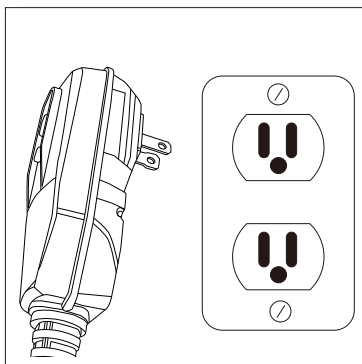

Fig.14
- Unwind the power cord completely and plug the GFCI into a grounded 120 Volt outlet. **(Fig14)**